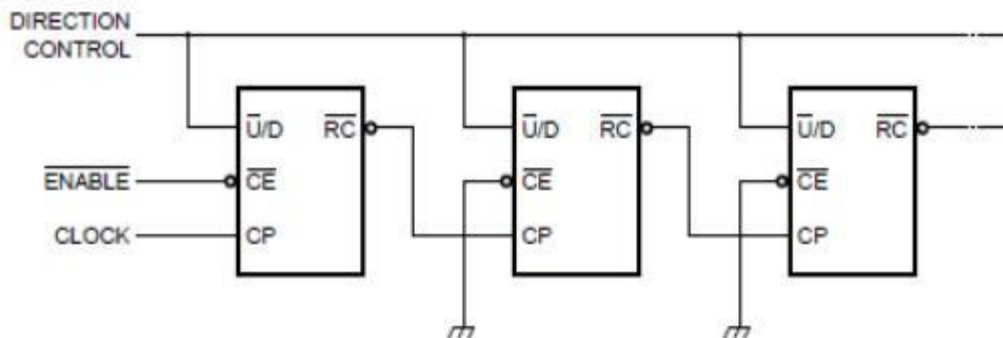

Figure 5. N-stage ripple counter using ripple clock
Overflow/underflow indications are provided by two types of outputs, the terminal count (TC) and ripple clock (\overline{RC}). The TC output is normally LOW and goes HIGH when a circuit reaches zero in the count-down mode or reaches “9” in the count-up-mode. The TC output will remain HIGH until a state change occurs, either by counting or presetting, or until $\overline{U/D}$ is changed. Do not use the TC output as a clock signal because it is subject to decoding spikes. The TC signal is used internally to enable the \overline{RC} output. When TC is HIGH and \overline{CE} is LOW, the \overline{RC} output follows the clock pulse (CP). This feature simplifies the design of multistage counters as shown in Figure 5 and 6.
In Figure 5, each \overline{RC} output is used as the clock input to the next higher stage. It is only necessary to inhibit the first stage to prevent counting in all stages, since a HIGH on \overline{CE} inhibits the \overline{RC} output pulse as indicated in the function table. The timing skew between state changes in the first and last stages is represented by the cumulative delay of the clock as it ripples through the preceding stages. This can be a disadvantage of this configuration in some applications.
its own \overline{CE} signal therefore the simple inhibit scheme of Figure 5 and 6 does not apply.